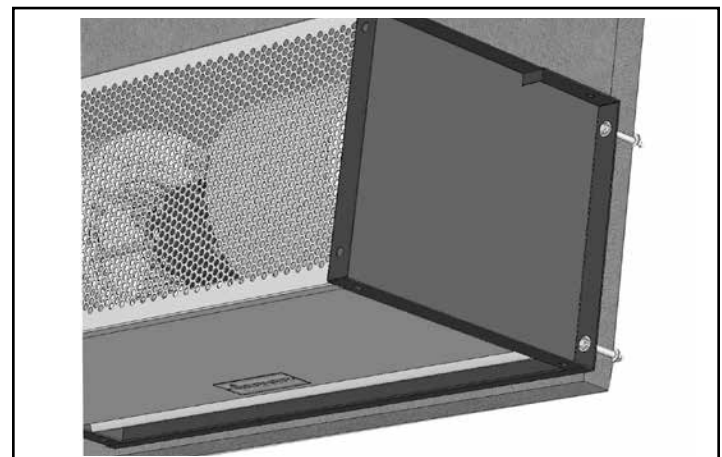
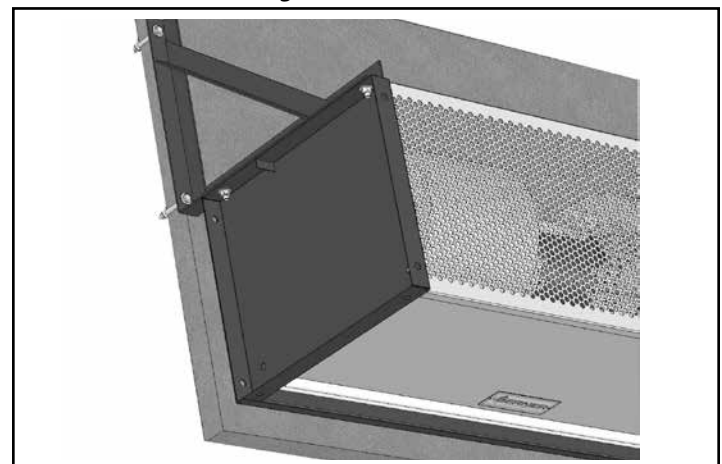

FIGURE 1 - Wall Mounting
FIGURE 2 - Wall Mounting Bracket
B. The IDC12/IDC14 Series end plates are equipped with $\frac{1}{2}$ " holes for wall mounting. The unit may be attached to the wall using, at minimum, $\frac{3}{8}$ " bolts through the holes on the back of the end plate. **See Figure 1.** Or, the unit may be attached using an optional wall mounting bracket or a combination of extension and wall mounting brackets (available from Berner) attached to the holes on the top of the end plate and the wall. **See Figure 2.**